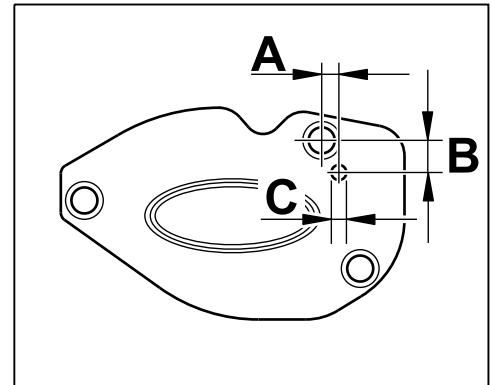

Figure 11
- 2.2.1 Drill the bore hole on the heat shield on the engine carrier according to the dimensions shown in ⇒ *Figure 11*.